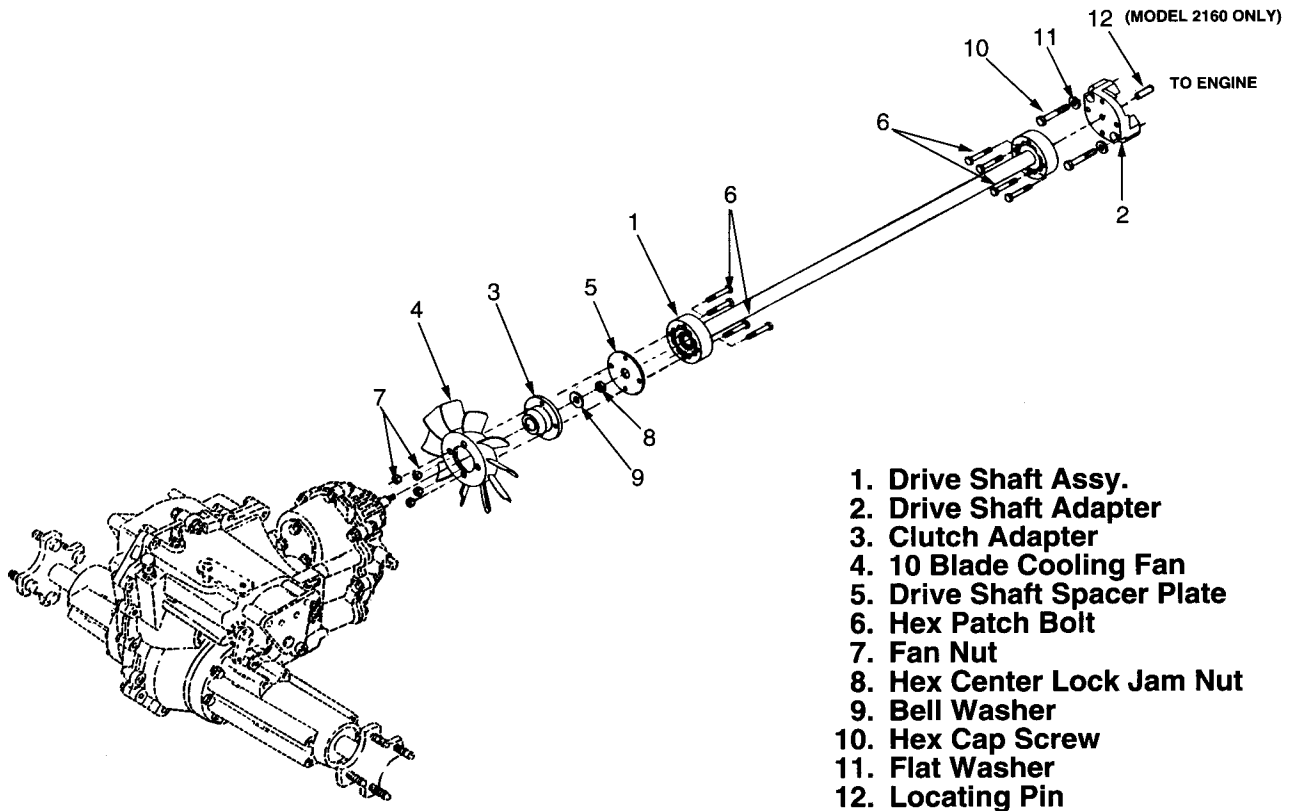

Figure 5-25. Drive Line (Models 2130, 2140 and 2160).
5-22.1.1 Two different length clutch input shafts and clutch adapters (3, Fig. 5-25) were used during early production of these Models. When servicing the drive line or the clutch assembly, use the following guidelines to determine that an appropriate match is installed:
6. Remove the drive shaft assy. (1, Fig. 5-25) as follows: